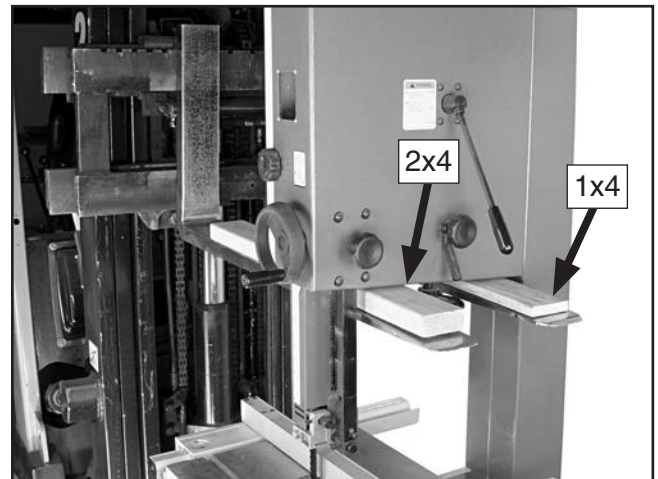

Figure 17. Example photo of lifting bandsaw with forklift using wood shims.
3. Carefully place the forklift forks under the head and insert a 1x4 block between the head and the left fork and a 2x4 block between the head and right fork so the bandsaw is level, as shown in **Figure 17**.